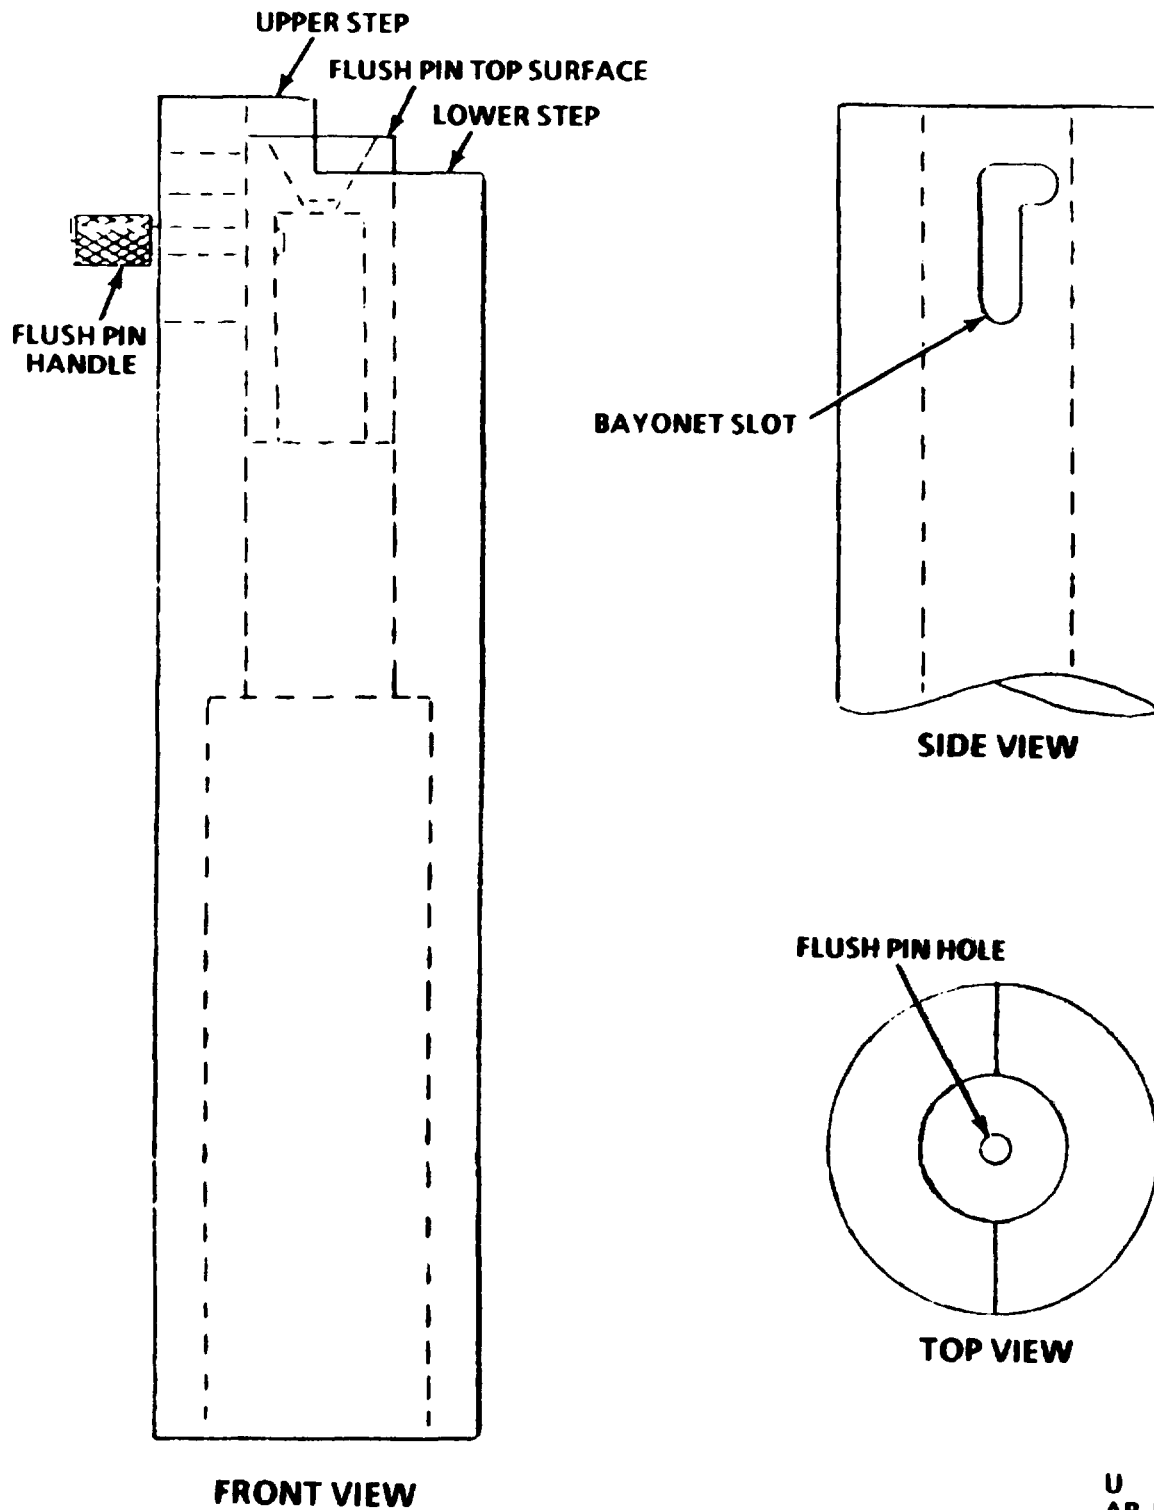

Figure 4-7. Cartridge M829 tip acceptance gage, flush pin type.
- (3) Electrically ground cartridge case base.
- (4) Using a rag dampened with acetone, thoroughly clean windshield tip and tip area of subprojectile.
- (5) Set flush pin handle in upper position of bayonet slot (fig. 4-7).
- (6) Slide Tip Acceptance Gage housing over windshield and windshield tip.
- (7) Release the flush pin handle, let flush pin drop to assure that the tip goes through the flush pin-hole (small diameter, 0.157 inch).